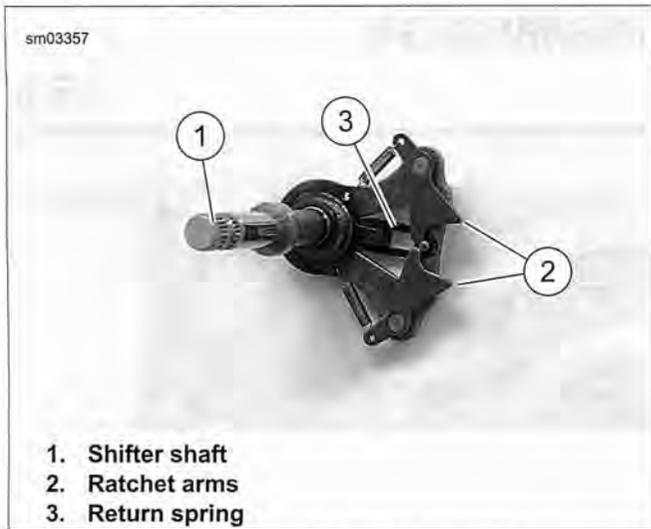
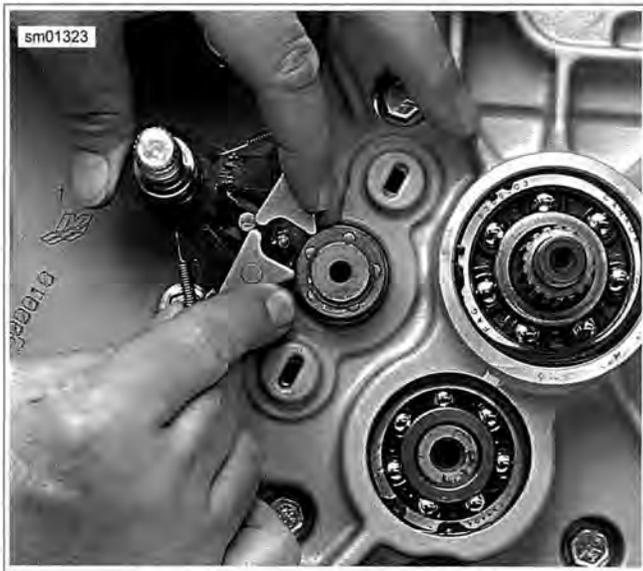

Figure 5-48. Shifter Shaft Assembly
Figure 5-49. Removing Shifter Shaft Assembly
10. See Figure 5-48 and Figure 5-49. Compress the ratchet arms (item 2, Figure 5-48) in order to clear the shifter drum, and remove shifter shaft assembly from left crankcase half.